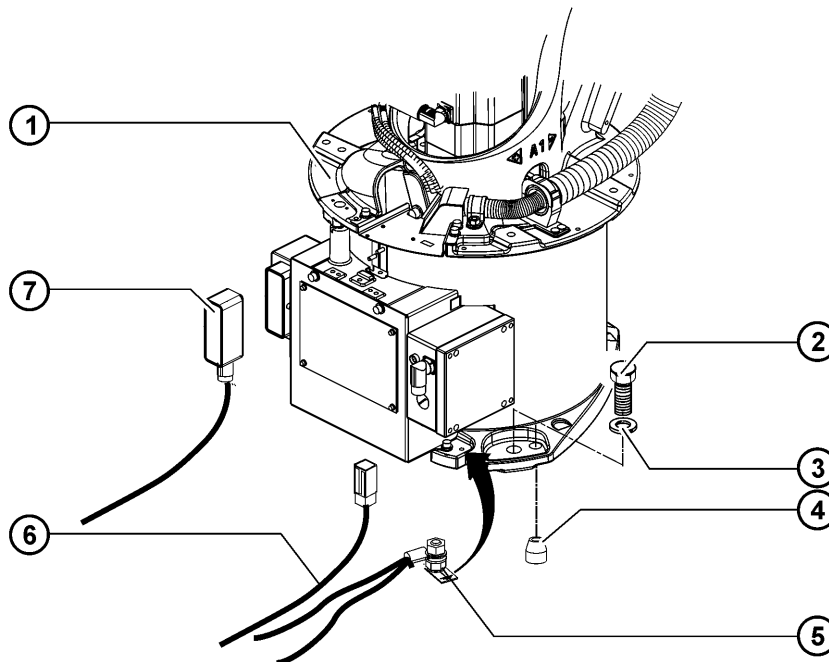

Fig. 8-4: Installing the robot
1. Check that both locating pins (>>> Fig. 8-4) are undamaged and fitted securely.